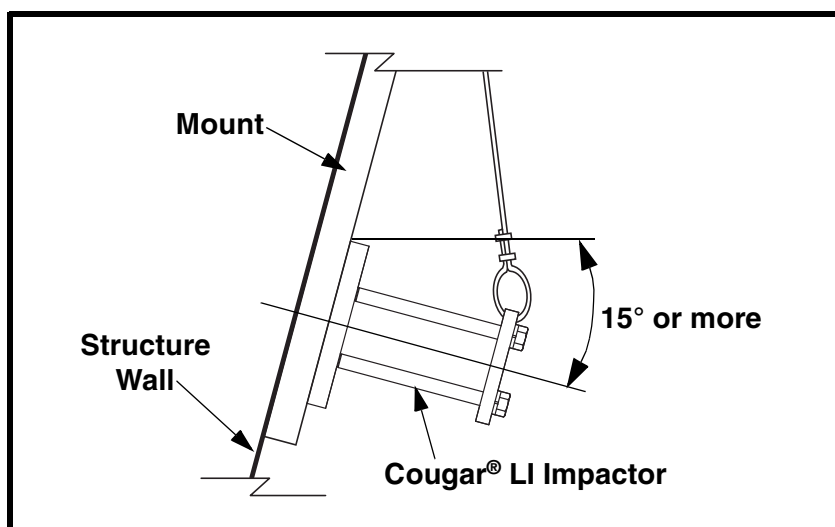

Figure 4. Mounting Cougar® LI Series Timed Impactor
Cougar® LI Series Timed Impactor must be mounted with a minimum slope of 15° below horizontal. (See Figure 4.)
1. If using Cougar® LI Series Timed Impactor, ensure mounting location has a minimum slope of 15° below horizontal. (See Figure 4.)